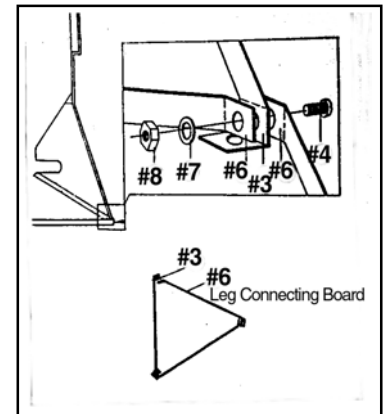

Figure 2
3. Assemble the three Leg Connecting Boards (#6) to the Leg Pieces (#3) with the Screws (#4), Washer (#7) and Nut (#8). **See Figure 2.**